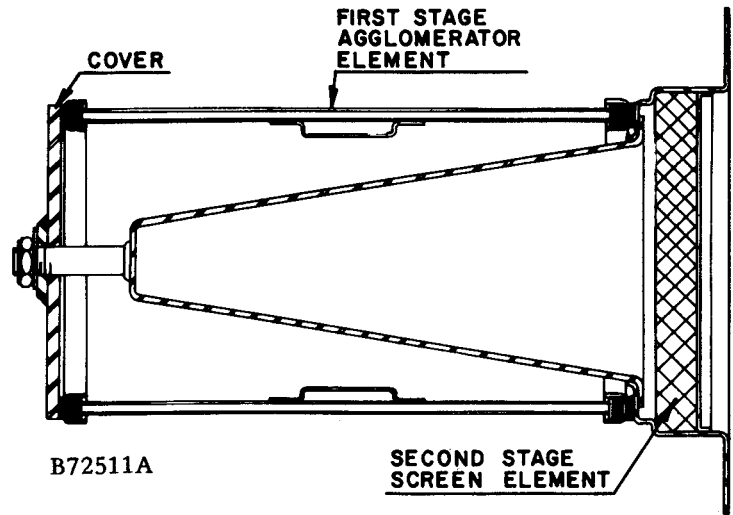

FIGURE 13. – OIL SEPARATOR
**COMPRESSOR OIL SEPARATOR** (Figure 13) located in the discharge manifold end of the oil reservoir consists of a renewable cartridge type agglomerator element (first stage) and screen element (second stage), and provides final removal of oil from stream. Oil from inside the separator, and from the dry sump section of the reservoir surrounding it, is returned through tubing to compressor bearing end plate.